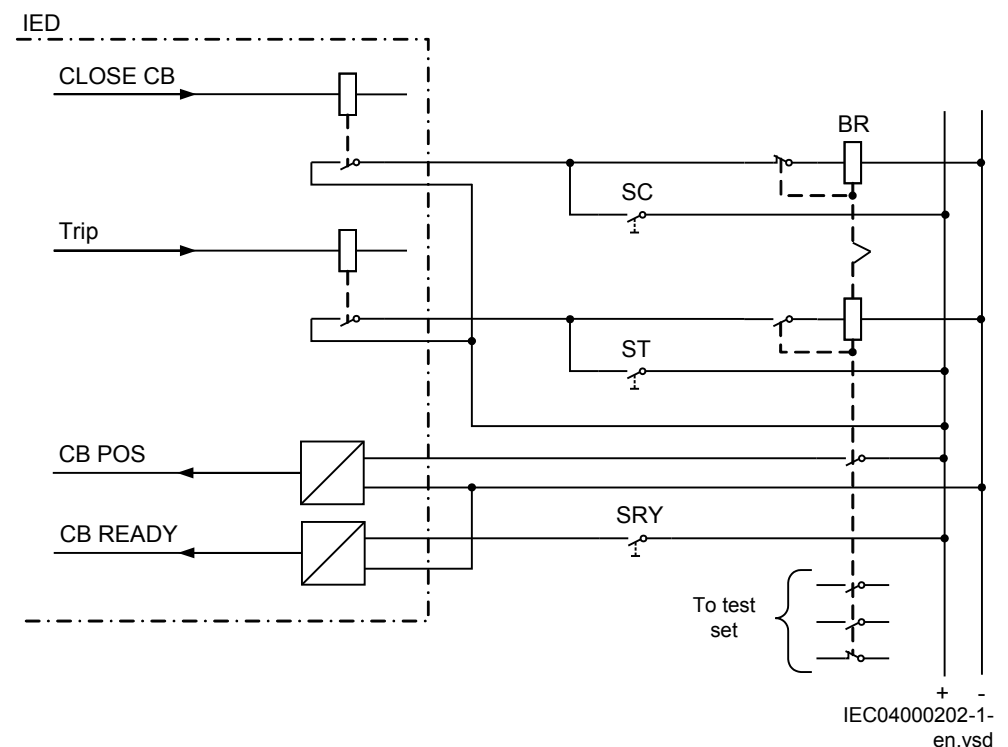

Figure 22: Simulating the CB operation by a bi-stable relay/breaker simulator and manual switches
The verification test is performed together with protection and trip functions. Figure 22 illustrates a suggested testing arrangement, where the circuit-breaker (CB) is simulated by an external bi-stable relay (BR), for example a relay type RXMVB2 or RXMD or Breaker Simulator of ABB.